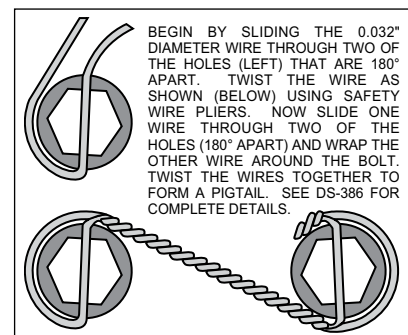

Figure 3. Safety Wire Diagram
- To accommodate several model years, multiple holes have been drilled in the caliper mounting bracket (1). Rotate the bracket until the two correct holes that align with the mounting holes in the face of the spindle are located. Apply red *Loctite*® 271 to bolt threads (2) before assembly of the caliper mounting bracket (1). Mount bracket (1) to dust face plate of spindle using bolts (2). Torque bolts (2) to 198 in-lb. **NOTE:** Be sure the heads of the caliper bracket (1) insert nuts are facing outward toward the wheel.
- Install wheel studs (3) into the hub (4). Torque to 77 ft-lb. **NOTE:** There are two five lug patterns in the hub (5 x 4.50 and 5 x 4.75). Make sure of the correct hole pattern for the correct wheel application before installing studs into hub.
- Pack the large inner bearing cone (5) with high temperature disc brake bearing grease (available from your local auto parts store) and install into the backside of the hub (4).
- Install the grease seal (6) by pressing into the backside of the hub (4).
•Attach the rotor adapter plate (7) to rotor (8) using bolts (9). Apply red *Loctite*® 271 to the threads and torque bolts (9) to 25 ft-lb. For an added measure of security, the bolts may be safety wired using standard 0.032 inch diameter stainless steel safety wire as shown in Figure 3. Please refer to Wilwood's data sheet DS-386 (available at www.wilwood.com/Pdf/DataSheets/ds386.pdf) for complete safety wire installation instructions. **NOTE:** The counterbored side of the rotor (8) should face away from the adapter plate (7), with the dished side of the adapter plate (7) facing away from the rotor (8).